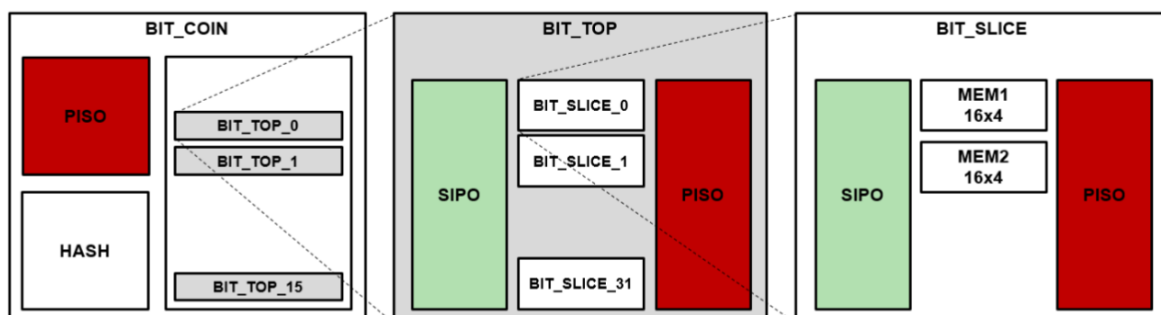

Figure 2.1 - Bitcoin Microarchitecture
- For many users, a hierarchical approach is the preferred design style. The microarchitecture for the Bitcoin design is shown in Figure 2.1.
Per Figure 2.1, the fundamental building block of the system is "BIT_SLICE", which is comprised of a SIPO (Serial In-Parallel Out) block, two memories, and a PISO (Parallel In-Serial Out) block. The BIT_SLICE block is instantiated 32-times in "BIT_TOP", which also has SIPO and PISO blocks. And finally, BIT_TOP is instantiated 16 times in "BIT_COIN" which has a PISO and HASH block.